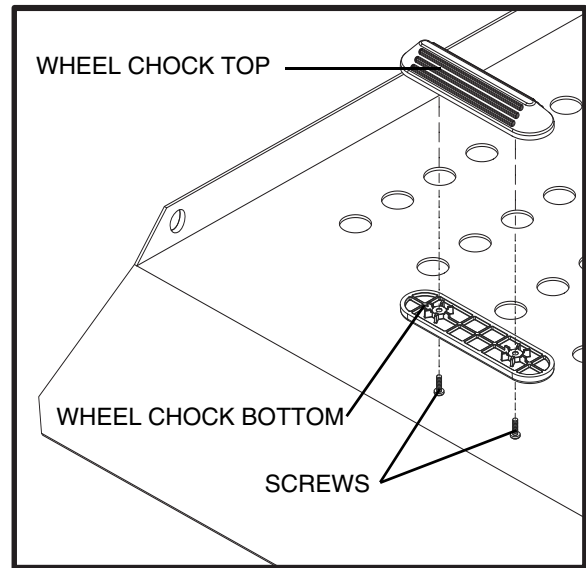

Figure 10. Wheel Chock Installation
See figure 10.
7. Secure the wheel chock sections to the platform using the supplied hardware. **See figure 10.**